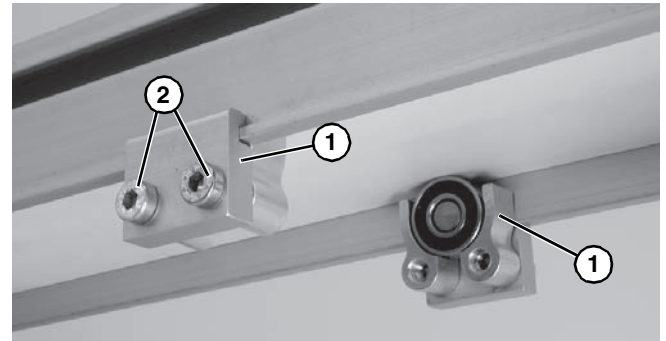

Figure 14
- Install roller assemblies (**Figure 14, item 1**) as shown. Tighten screws (**Figure 14, item 2**) to 60 in-lb (7 Nm).